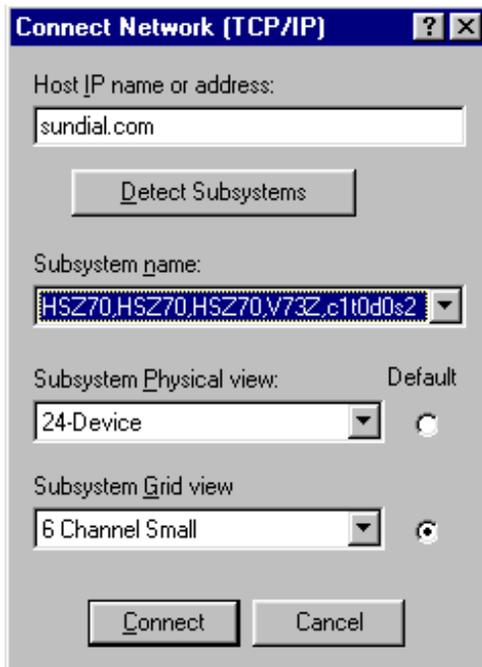

Figure 1-7. Connect Network (TCP/IP) window
2. Select the Network (TCP/IP). The Connect Network (TCP/IP) window appears, as shown in Figure 1-7.